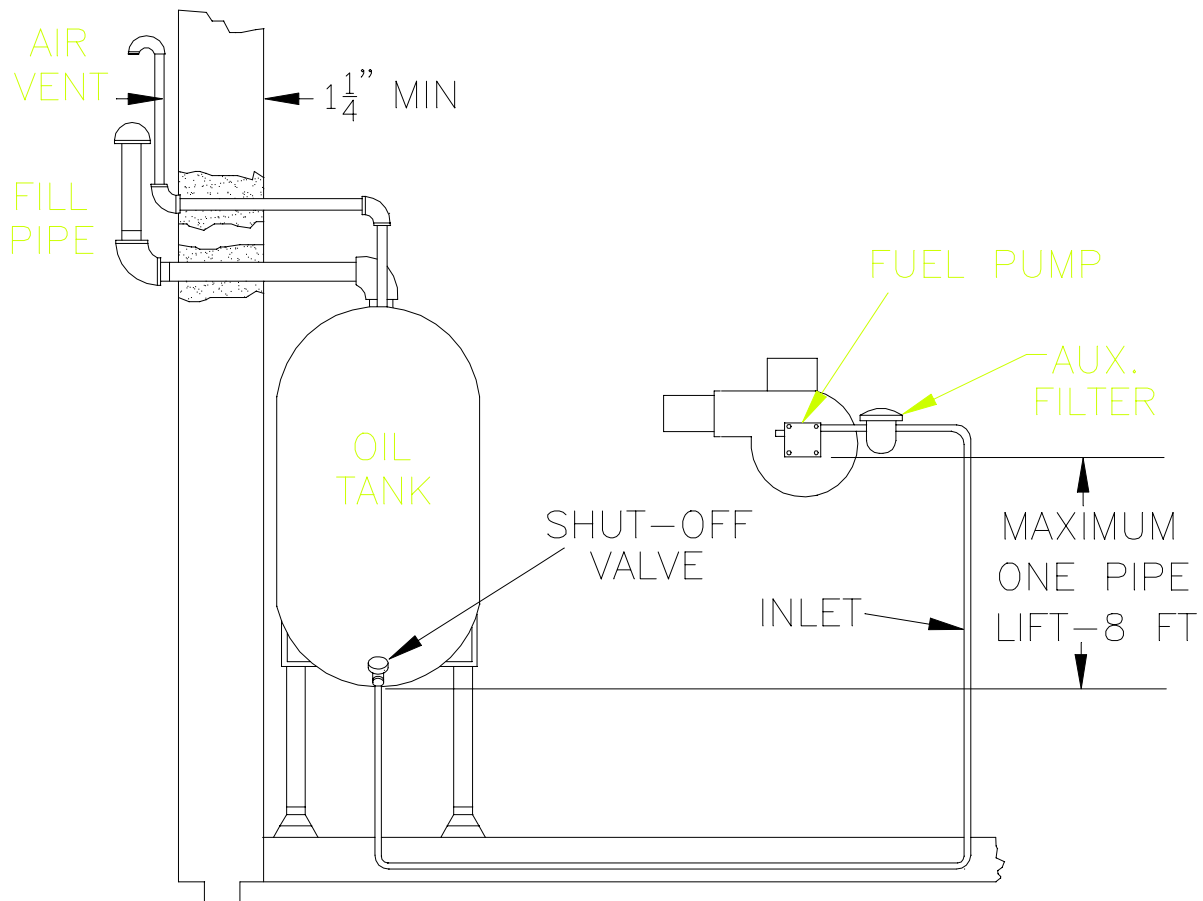

Figure 21: Single-Pipe Installation
2. The single-stage fuel unit may be installed single-pipe with gravity feed or lift. Maximum allowable lift is 8 feet. See Figure 21.